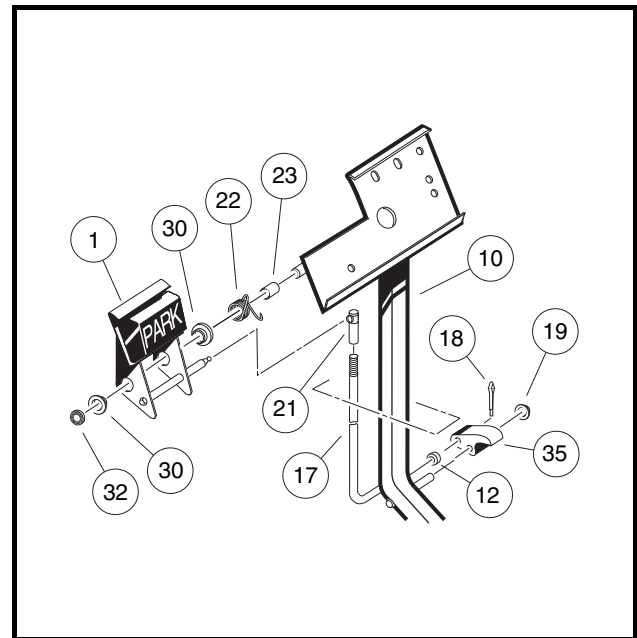
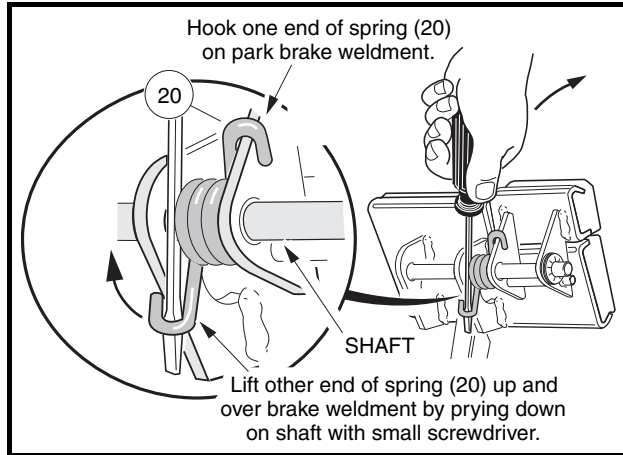

Figure 5-4 Park Brake Assembly
Figure 5-5 Torsion Spring Installation
NOTE: *New push nuts (19) and (32) must be used when reassembling the park brake (Figure 5-4, Page 5-4).*
- 3.2. To remove the park brake pedal (1), remove the push retainer nut (32), disconnect the torsion spring (22) (**Figure 5-4, Page 5-4**) and slide the pedal off of the shaft. **See preceding NOTE.**
1. From the bottom side of the floorboard, insert the park brake rod (17) through the brake pedal assembly opening as shown (**Figure 5-4, Page 5-4**). Then install the park brake pawl (35) onto the shaft on the brake pedal assembly (10) and also insert the park brake rod (17) into the park brake pawl.
2. Install the push nut (19) on to the park brake pawl shaft.
3. Install the spacer (23) and torsion spring (22) on the park brake pedal shaft on the brake pedal assembly.
4. Install the two bushings (30) in the park brake pedal and position the park brake pedal on the shaft on the brake pedal assembly weldment (10) (**Figure 5-4, Page 5-4**). Then attach the ends of the torsion spring to the park brake pedal and to the brake pedal weldment as shown (**Figure 5-5, Page 5-6**).
5. Install the push nut (32) on the park brake pedal shaft (**Figure 5-4, Page 5-4**).
6. Connect park brake rod (17) with ball joint (21) to the ball stud on the park brake pedal assembly (**Figure 5-4, Page 5-4**).